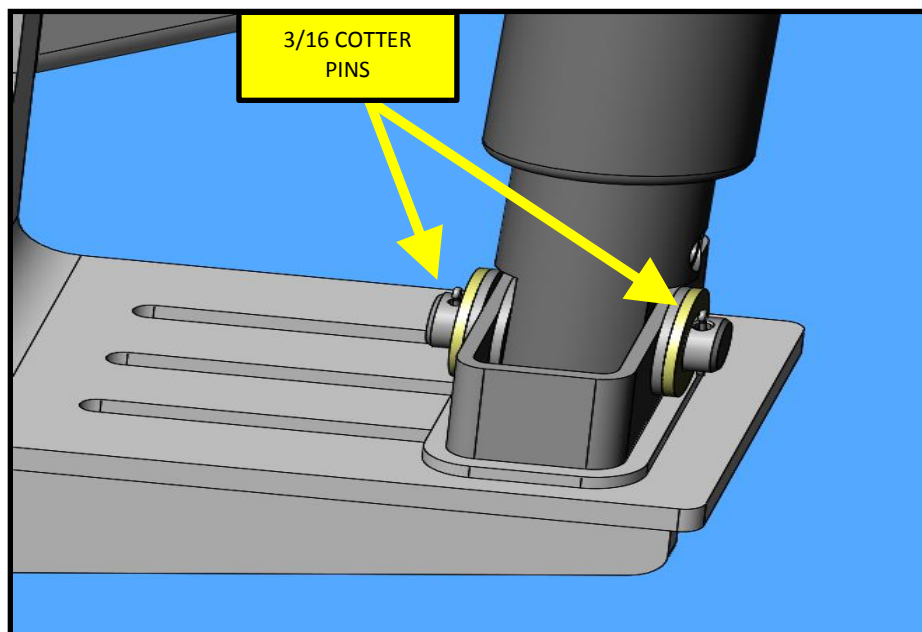

FIG. 14-2
24. Remove and properly dispose of (2) 3/16 cotter pins. Refer to FIG 14-2.